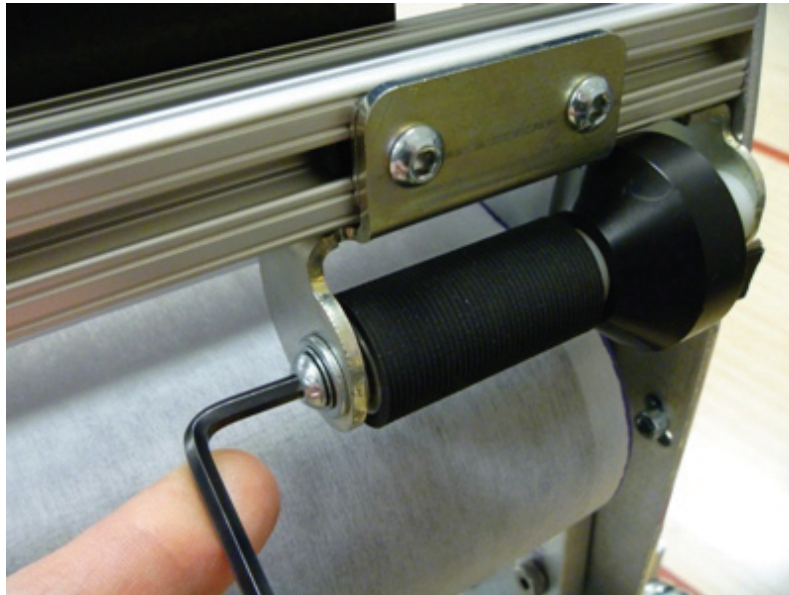

Figure 20
20. Install the 1/4-28 x 1/2" button head screw, internal lockwasher and washer as shown. Refer to *Figure 20*.